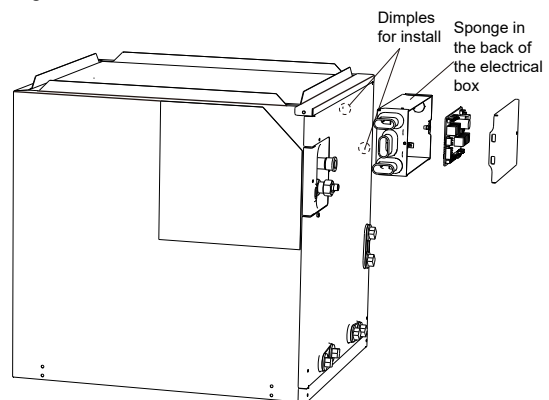
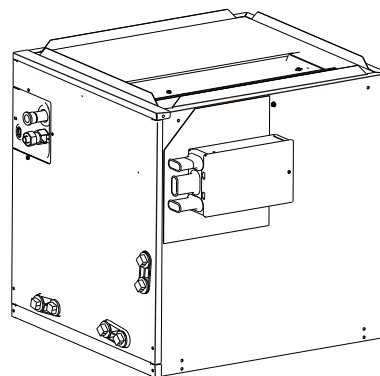
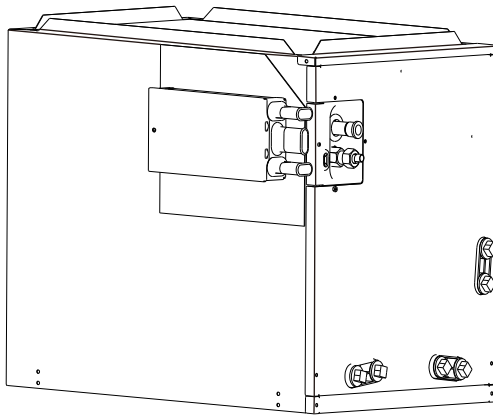

Fig. 3-6 Mounting section view
Fig. 3-7 Install right view
Fig. 3-8 Install left view
2. Open the upper cover of the leak mitigation control kit, and fix the kit on the front or side of Acoil with self-tapping screws. Pay attention to the sponge pad in the accessory bag. This should be placed on the back of the mitigation kit to avoid damage to the A-Coil. See example in fig 3-6.
- (1) Only install the mitigation kit in the designated locations to avoid damaging the coil.
- (2) When installing the mitigation control kit, do not use screws more than 0.4 inches long to prevent screws from penetrating the glass fiber cotton;
- (3) When installing the mitigation control kit, please check that the screws are away from the coil tubes when installed;
- (4) When mounted on the side, the electric control box can be aligned with the indicating label arrangement, as shown Fig. 3-7 and Fig. 3-8;
(5) In the side installation, if the drill is used during installation, the drilling depth should not exceed 0.2 inches to prevent the glass fiber cotton from being hit;
(6) When installing the mitigation kit on the front panel, use the locating dimples in the panel as shown in Fig. 3-6;